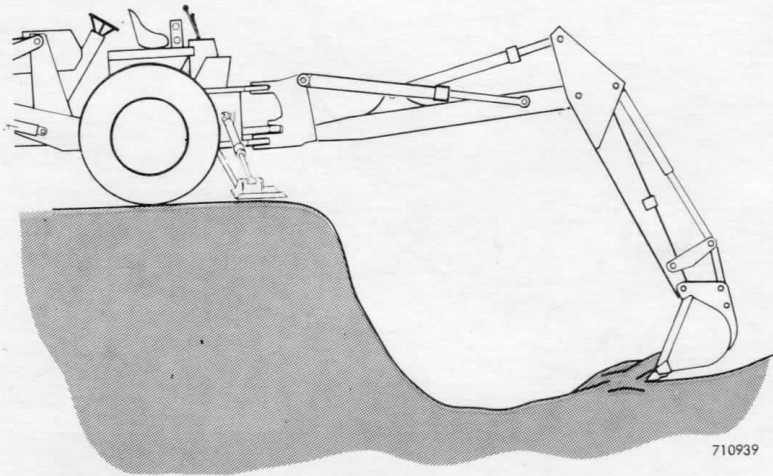

Figure 32 - Backhoe Position For Trench
2. Position the backhoe as shown in Figure 32. As explained under step 2, page 27, the starting position of the backhoe is very important.